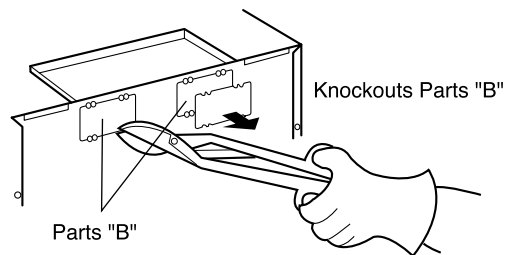

Figure 15
3. Use side cutters or tin snips to cut and remove knockouts "B" from Back plate. Discard knockouts. Be careful not to distort the plate. See Figure 15.